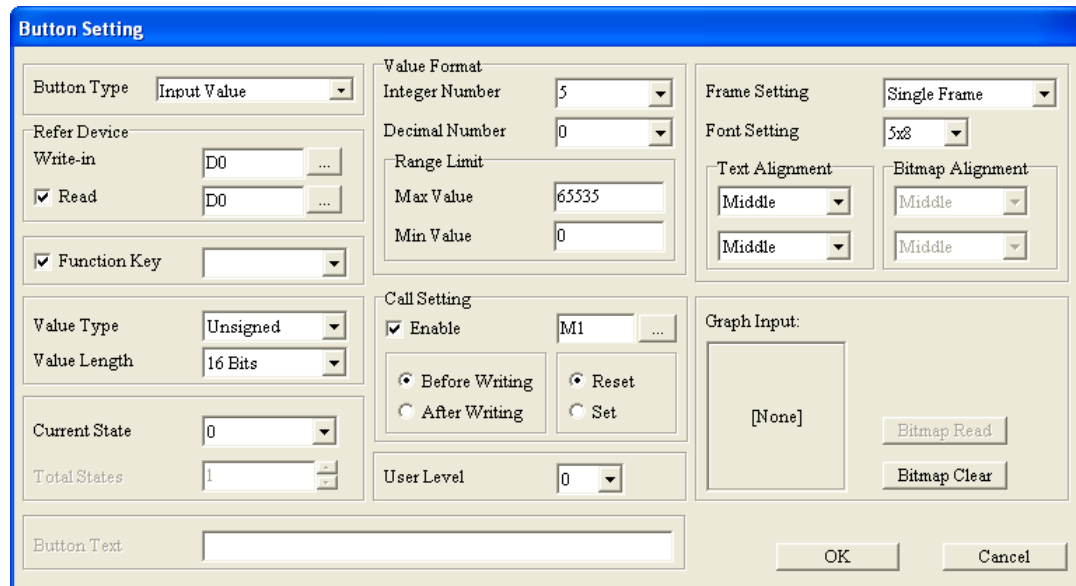

Figure 4-62 Button Setting window
- If **Input Value** is selected, the **Button Setting** window will be as shown in Figure 4-62.